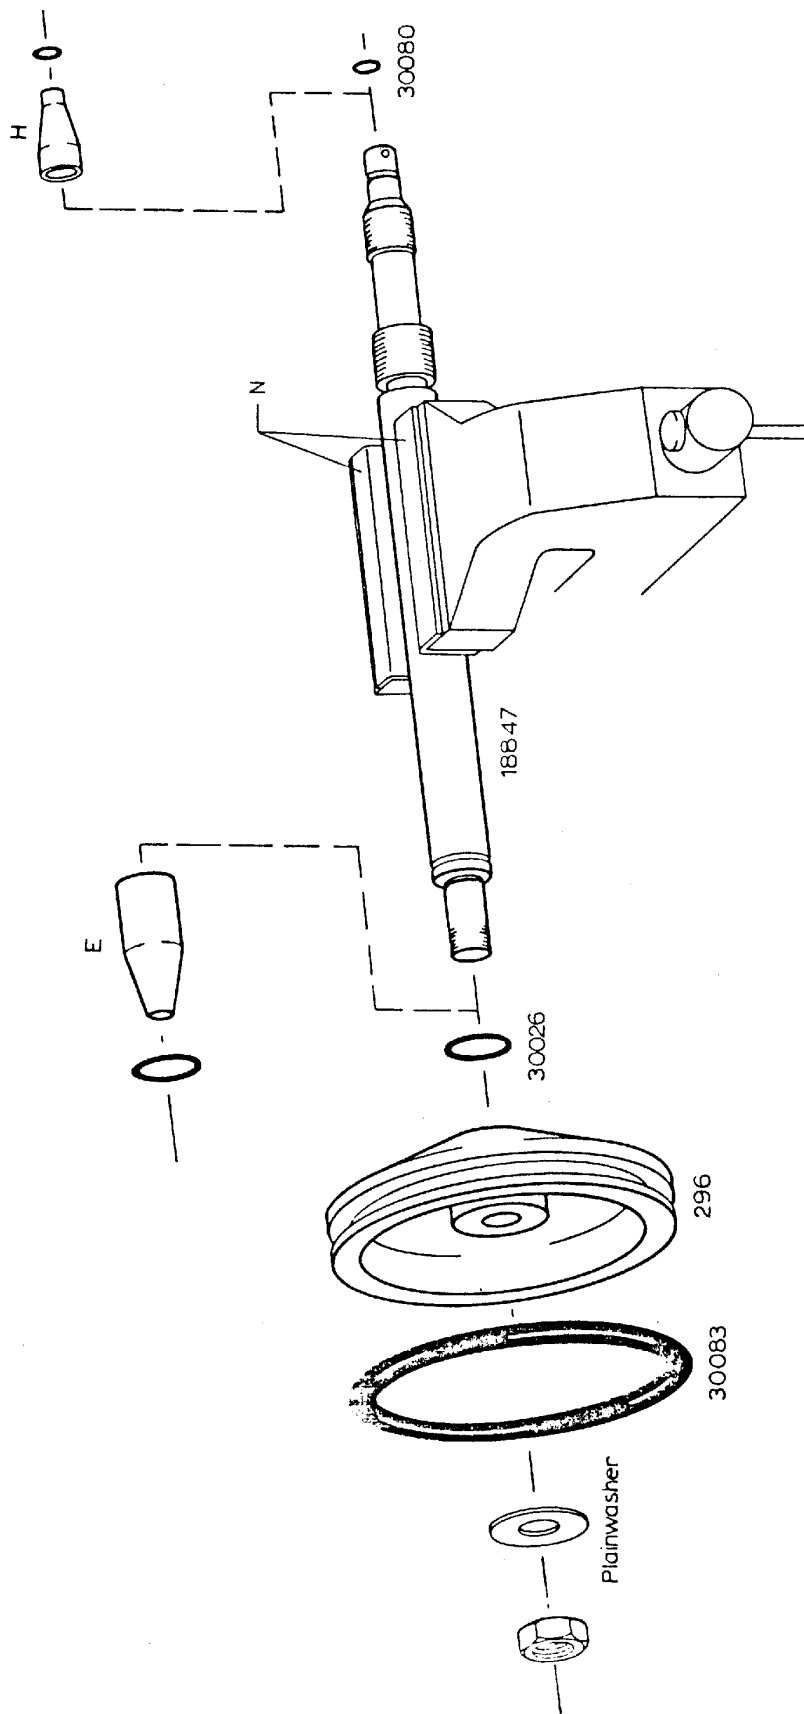

Figure 5
f) Check O-Ring 30083 (see Fig. 5).
(Figure 5)